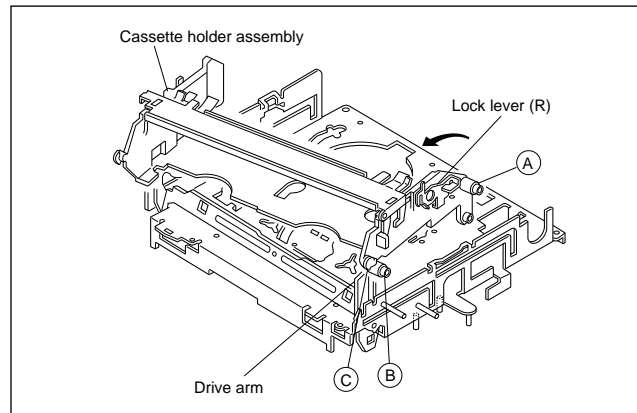

Fig. 2-2-3g
- (3) Hold the drive arm upright and fit the leg (C) on the right side of the cassette holder assembly into the groove. (See Fig.2-2-3g.)
- (4) While swinging the lock lever (R) of the cassette holder assembly toward the front, put the legs (A) and (B) into the rail. (See Fig.2-2-3g.)